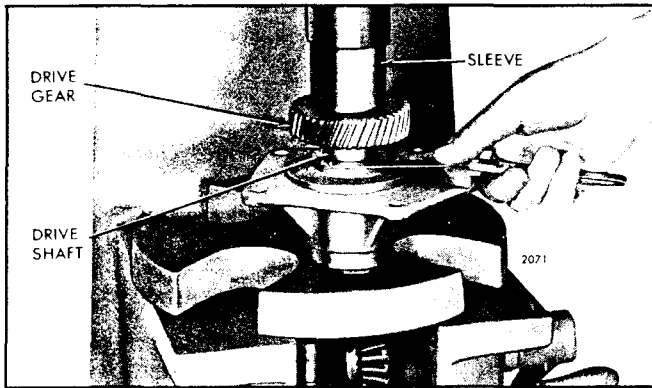

Fig. 5 - Pressing Blower Drive Gear On Shaft
5. Position the gear on the shaft so the keyway in the gear is in alignment with the key in the shaft. Then place a sleeve on the gear and press the gear on the shaft until the clearance between the gear and support is .004 " to .006 " (Fig. 5).